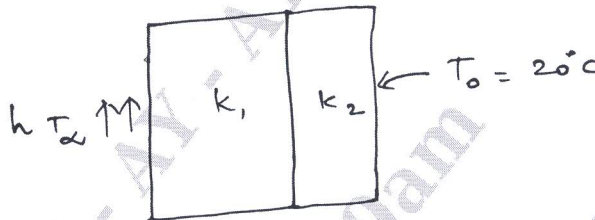

Fig Q7(b)
- b. Determine the temperature distribution through the composite wall shown in Fig Q7(b) when convection heat loss occurs on the left surface. Assume unit area. Take wall thickness  $t_1 = 4\text{cm}$  and  $t_2 = 2\text{cm}$ . Assume  $K_1 = 0.5\text{W/Cm}^\circ\text{C}$  and  $K_2 = 0.05\text{W/Cm}^\circ\text{C}$ ,  $h = 0.1\text{W/cm}^2\text{C}$  and  $T_\infty = -5^\circ\text{C}$ .